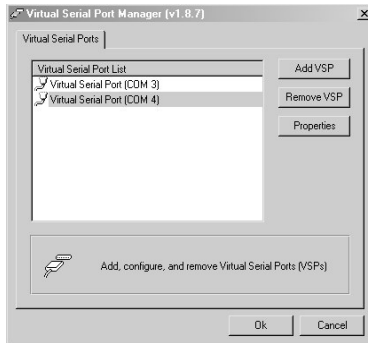

Figure 12: The Virtual Serial Port Properties Window (COM 3 and COM 4)
4. You can set a virtual port for each local port on your **VS-311HDMI** (see Figure 12).